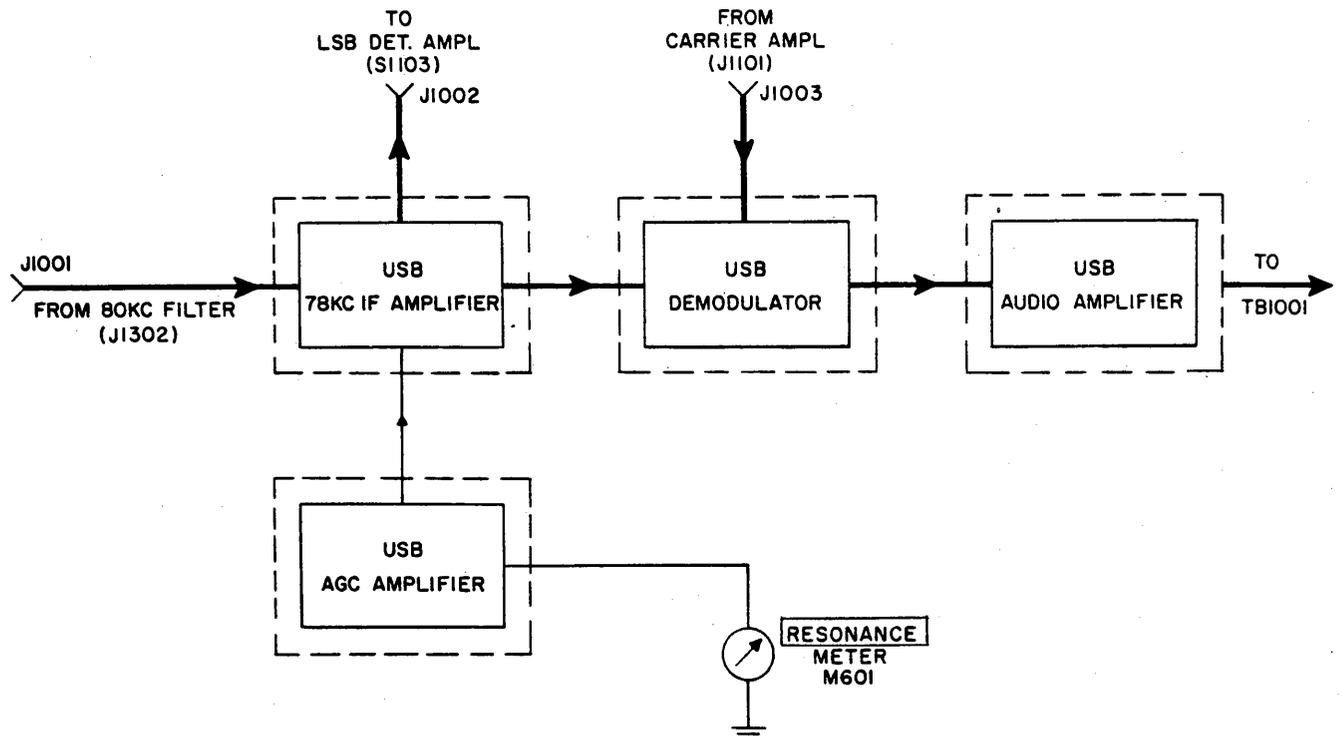

Figure 5-44. USB Detector-Amplifier, Functional Block Diagram
a. DIAGRAMS.—Figure 5-44 is a functional block diagram of the USB detector-amplifier circuits. It is followed by these functional schematic diagrams: